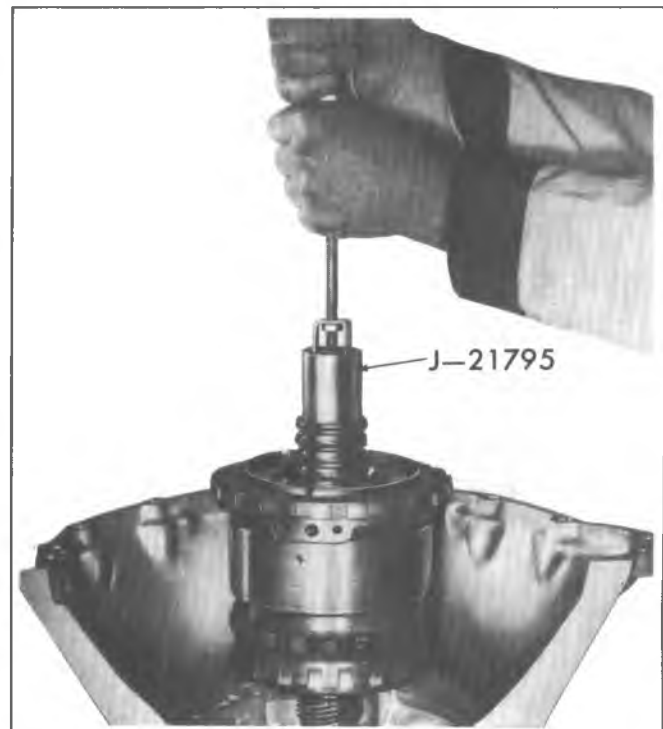

Fig. 7A-42C--Removing Center Support and Gear Unit from Case
15. Remove entire gear unit assembly by lifting with gear assembly installing and removing Holding Tool J-21795 with J-9539 slide hammer (Fig. 7A-42C).